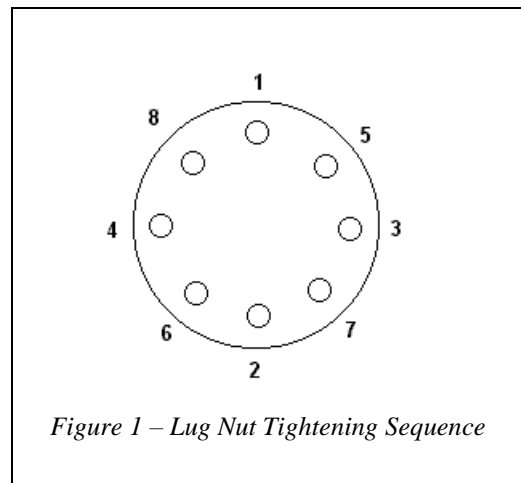

Figure 1 – Lug Nut Tightening Sequence
- Must be tightened in sequence. Figure 1 shows the tightening sequence.